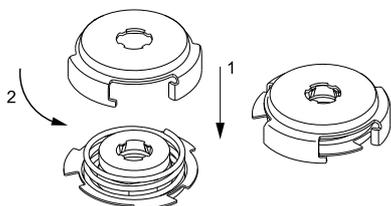

Fig. 20 Fitting the spring and driver
- Fit spring (pos. 108) and driver (pos. 112). See fig. 20.